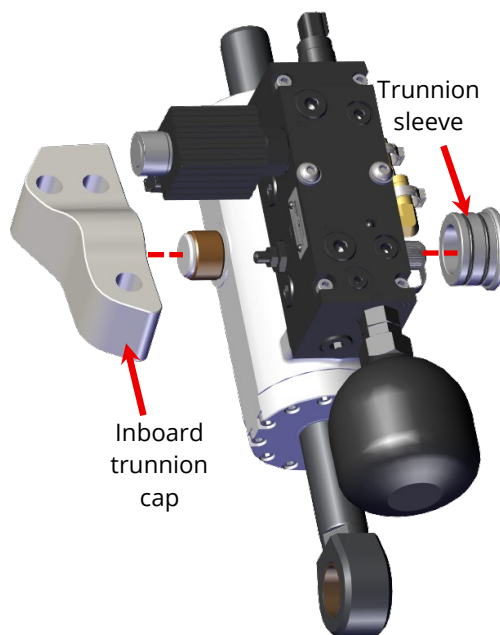

Figure 17: Brake assembly detail
- c. **PLACE** inboard gimbal cap over inboard trunnion of brake assembly (Fig 17).
- d. **PLACE** trunnion sleeve (P/N 14113) with O-rings over outboard trunnion of brake assembly (Fig. 17).